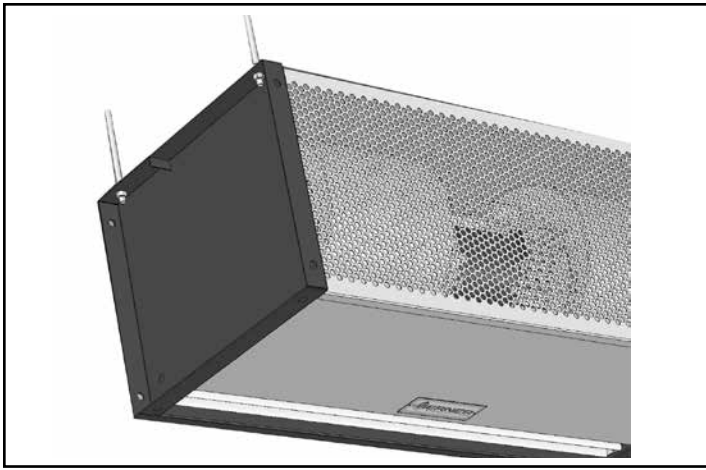
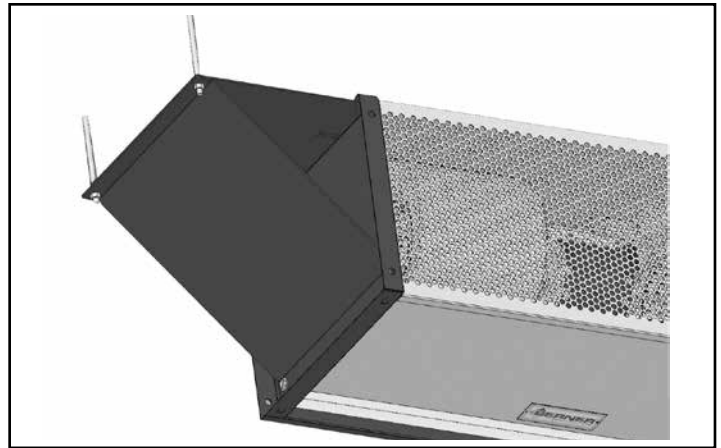

FIGURE 3 - Threaded Rod Suspension
FIGURE 4 - With Extension Brackets
- B. The VS and KS Series end plates are equipped with 1/2" holes for suspended mounting. The unit may be suspended using a minimum 3/8" suspension rod (**Figure 3**), or using 3/8" suspension rods and extension brackets (available from Berner). **See Figure 4.**